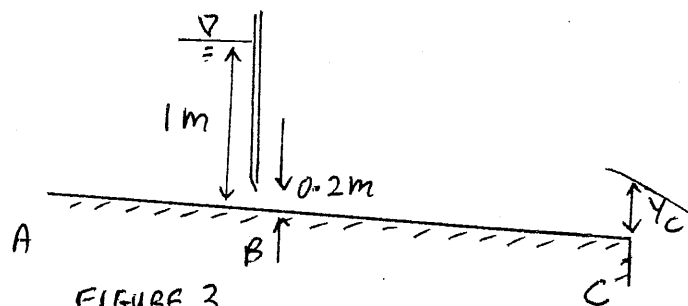

FIGURE 3
3) A long open channel ABC has a rectangular cross-section with a width of 2 m, a slope of 0.002 and a Manning's coefficient of 0.015. There is a sluice gate B that has an opening of 0.2 m. The channel ends in a free overfall at C, as shown in Figure 3. It is observed that there is a hydraulic jump between B and C.